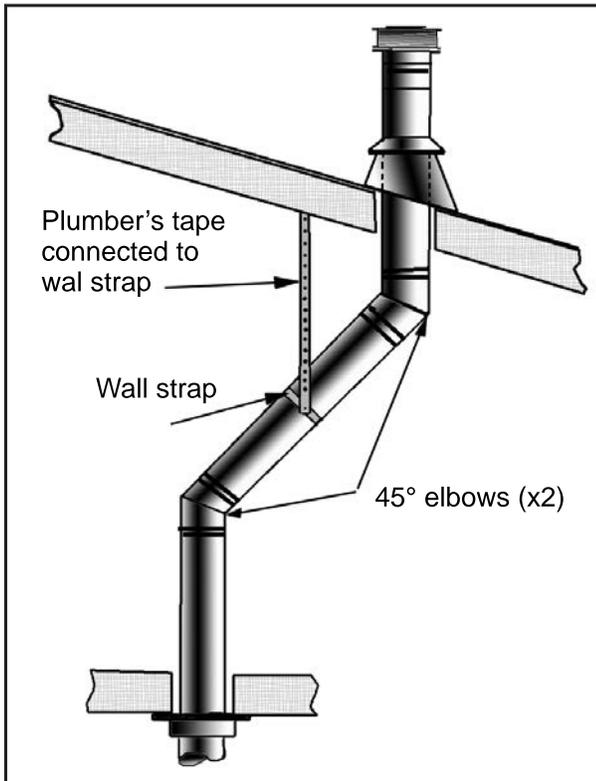
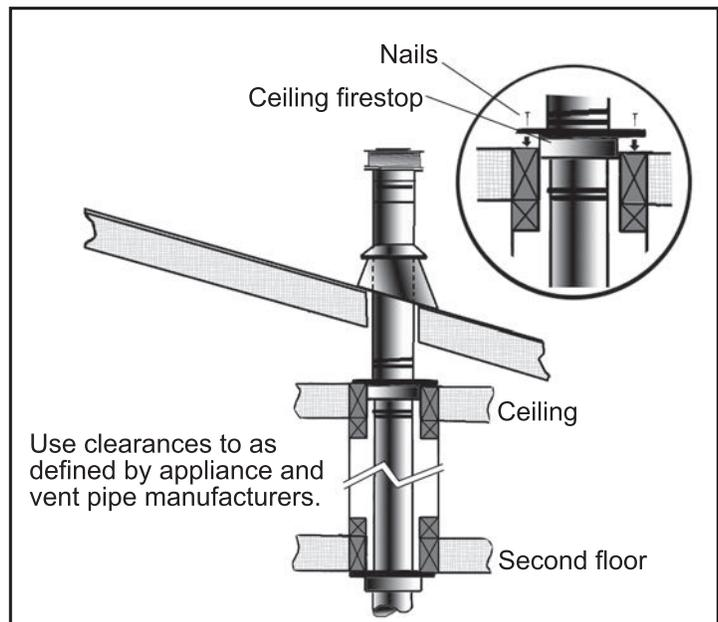

Figure 55: Use of Wall Straps.
Figure 56: Multi-Story Vent Pipe Installation
- (1) If an offset is necessary in the attic to avoid obstructions, it is important to support the vent pipe every **3' (914 mm)**, to avoid excessive stress on the elbows, and possible separation. Wall straps are available for this purpose (see Figure 55).
- (2) When ever possible, use 45° degree elbows instead of 90° degree elbows. The 45° degree elbow offers less restriction to the flow of flue gases and intake air.
- (3) For multi story installations; a ceiling firestop is required at the second floor, and any subsequent floors (see Figure 56). The opening should be framed to **10" (254 mm) x 10" (254 mm)** inside dimensions, in the same manner as shown in Figure 48.
- (4) Any occupied areas above the first floor, including closets and storage spaces, which the vertical vent passes through, must be enclosed. The enclosure may be framed and sheet-rocked with standard building materials. However consult the appliance manufactures installation instructions for the minimum allowable clearance between the outside of the vent pipe, and the combustible surfaces of the enclosure. Do not fill any required air spaces with insulation.